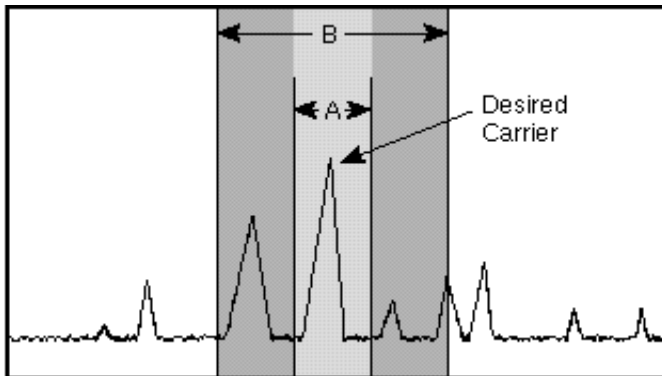

Figure 6: Desired Bandwidth
Immunity to noise depends on bandwidth and the frequency accuracy of the transmitter. The more accurate a signals frequency and the narrower a signals bandwidth is, the narrower the receiver's front-end filter can be. This increases the ratio between the signal and noise and greatly reduces the potential for off-frequency interference. Figure 6 illustrates how a receiver with a narrow front end bandpass opening (A) has a much better chance of receiving the incoming signal than receiver (B) with its wide front end pass opening.